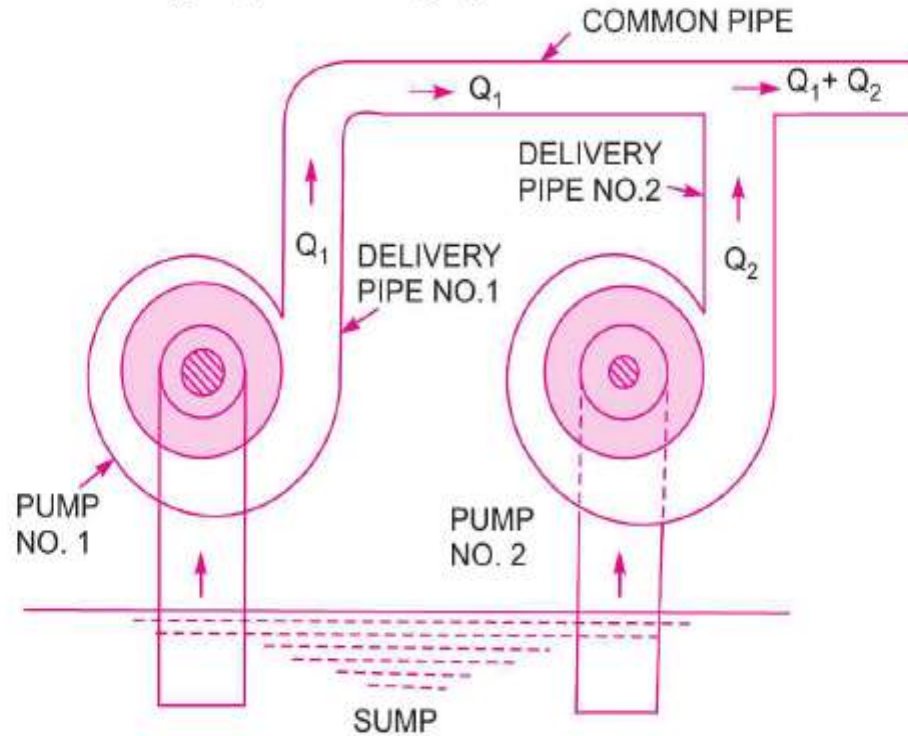

Fig. 1 Pumps in parallel.
**2 Multistage Centrifugal Pumps for High Discharge.** For obtaining high discharge, the pumps should be connected in parallel as shown in Fig. 1. Each of the pumps lifts the water from a common pump and discharges water to a common pipe to which the delivery pipes of each pump is connected. Each of the pump is working against the same head.